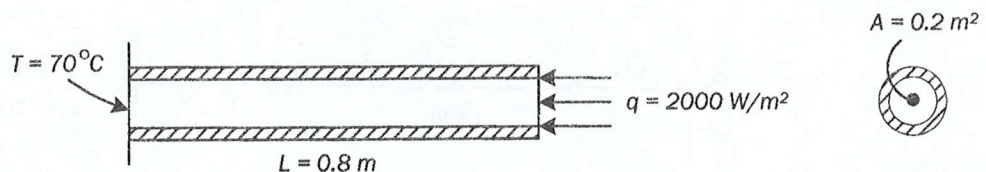

Figure Q3[a]
- Q3. [a] The fin shown in Figure Q3[a] is insulated on the perimeter. The left end has a constant temperature of 70°C . A positive heat flux of $q = 2000\text{ W/m}^2$ acts on the right end. Let thermal conductivity, $k_x = 20\text{ W/(m}\cdot^\circ\text{C)}$ and cross-sectional area $A = 0.2\text{ m}^2$. Determine the temperatures at $L/2$ and L from the left end.